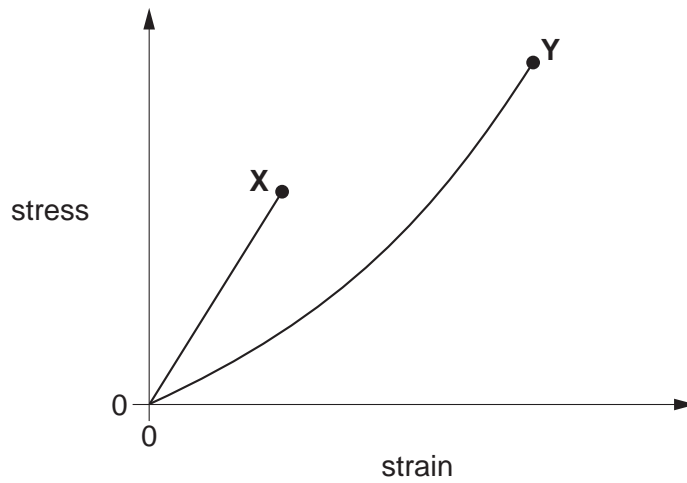

Fig. 7.1
- 5 (a) Fig. 7.1 shows stress against strain graphs for two materials X and Y up to their breaking points.